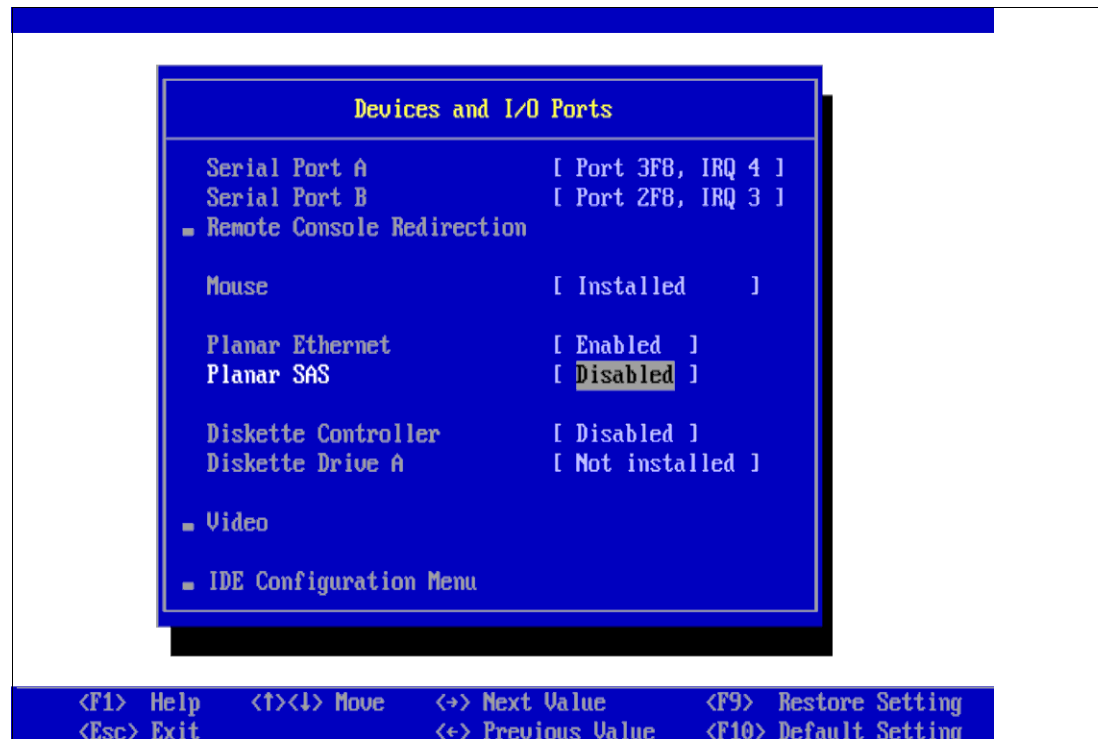

Figure 27-8 Disabling internal boot device
2. Depending on the internal disk technology of the host server, you have to disable this internal boot device. In our example, the System x server uses internal SAS disks. We disable the onboard Planar SAS, as shown in Figure 27-8. If available, select the IDE/SAS/SATA configuration menu and disable the primary and secondary.